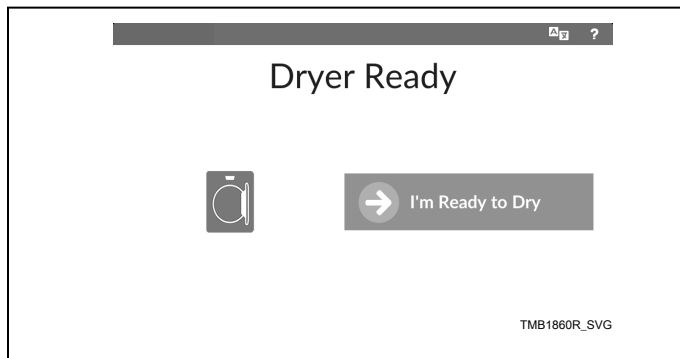

Figure 22
1. From the Approach Page, select "I'm Ready to Dry" (refer to Figure 22).